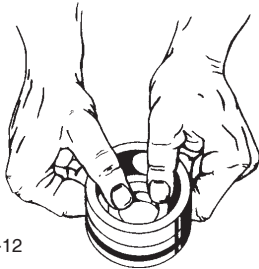

Figure 4-12
20. Install "O" ring or cup elastomer on the seal seat,(#12.5) lubricate the elastomer and carefully press the seat into the seal cups.(#2) (refer to figure 4-12) A clean soft material should be used between the seal face and pressing tools. The smoothest side of the seat should face up. Caution: Dirt and scratches can quickly ruin seals. Place an "O" ring (#6) into the groove around each seal cup.